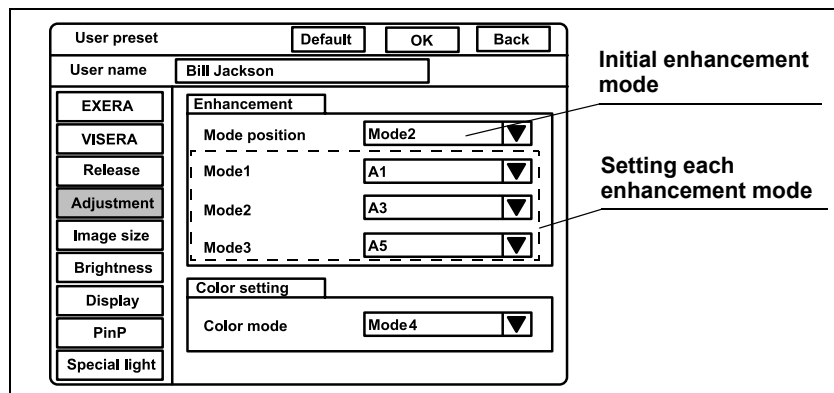

Figure 9.21
1. Click “Adjustment” on the system setup menu. The setting items appear on the right side of the window (see Figure 9.21).
1. Click “▼” of “Mode position” (see Figure 9.21). The numbers of enhancement mode appear in the pull-down menu.
1. Click “▼” of “Mode 1” (see Figure 9.21). The enhancement types appear in the pull-down menu.